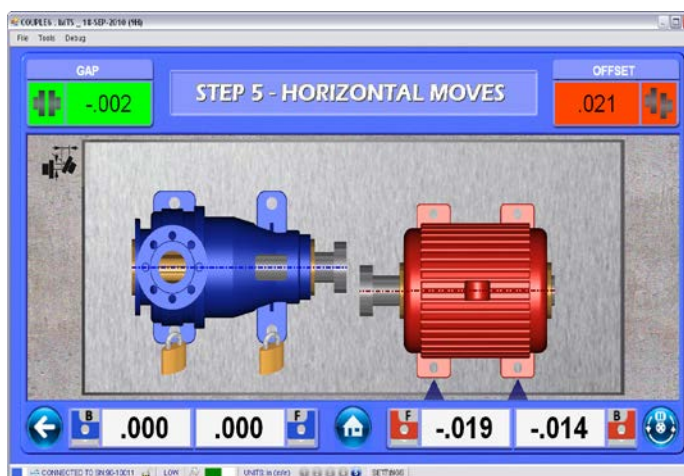

**Figure 55 --** Aligning laser beams with S-670 to take Uncoupled Shaft data in Point Mode using the dust cover/alignment tool
4. Rotate the T-1285 Target (*do not touch the laser adjustment wheel*) until the laser beams nearly disappear into the holes (or are centered on the vertical white line if the laser beams are too high) in the Dust Cover/Alignment Tool (*see Figure 55*).